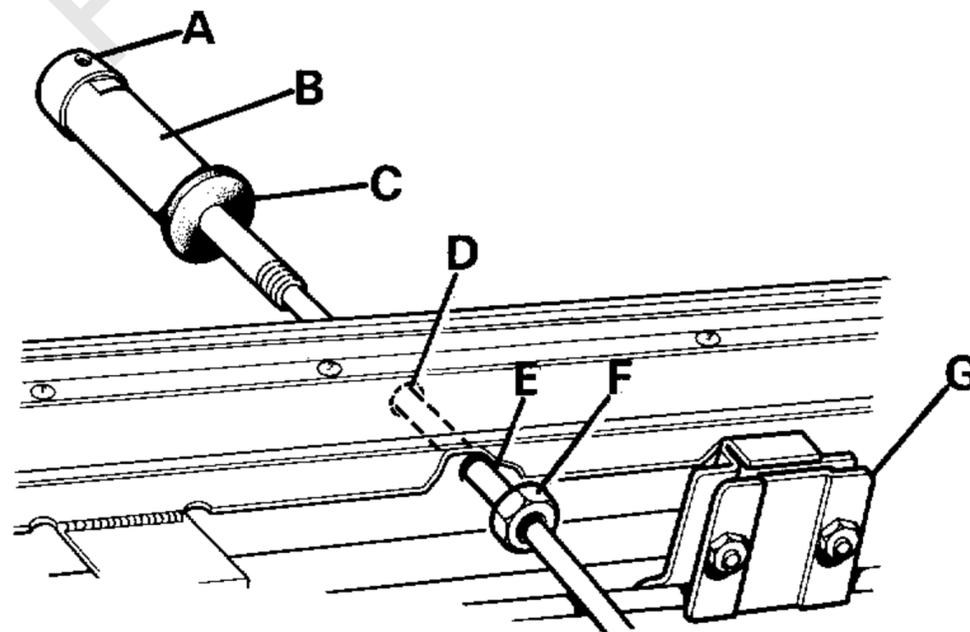

FIG.5.
26. Holes are provided adjacent to the wiper mechanism in the inner and outer top-vent panel for the fitting of the two washer jets. The outer holes are sealed with blanking plugs which should be discarded. (Fig.5.)
27. Remove the hexagon nut from each jet assembly 348641 (RH) and 348066 (LH), and insert the jet through the panels ensuring that the rubber sealing washer is in position on the weather side of the panel. Locate the nut over the plastic tube and tighten.